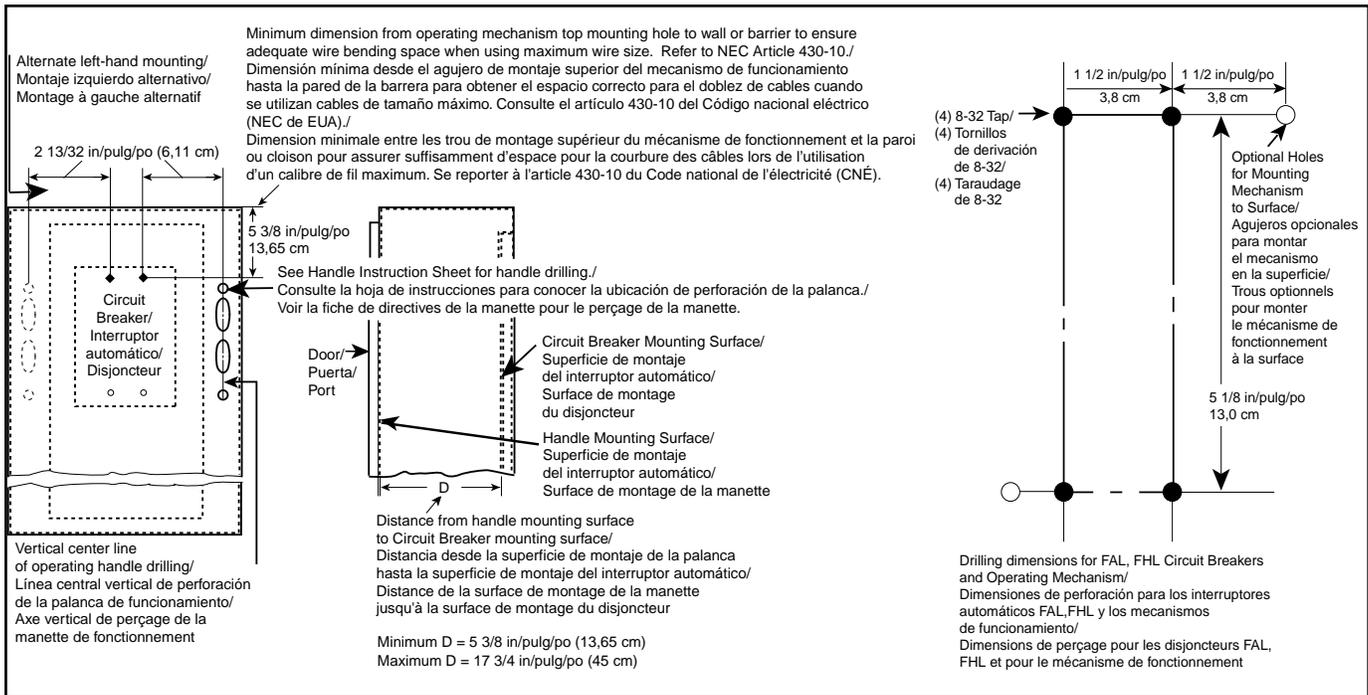

Figure 2 / Figura 2 / Figure 2: Location and Drilling of Panel Mounting Holes /
2. See Figure 2 on page 5 for location and drilling of panel mounting holes.
3. Cut operating rod (item 1) to length L where $L = D - 2 \frac{1}{4}$ in (5.72 cm).
4. Thread operating rod into drive pin (item 2) TEN full turns.
5. Attach adhesive backed vinyl mask (item 3) over "ON-OFF" markings on circuit breaker.
6. Slide liner (item 4) into the operating mechanism. Align liner with mounting holes. **Make sure the liner overhangs the top of the operating mechanism 1 3/4 in (4.44 cm); if it does not, the liner is upside down and must be repositioned.** The liner must wrap around the circuit breaker.
2. Voir la figure 2 à la page 5, pour obtenir l'emplacement et le perçage des trous de montage du panneau.